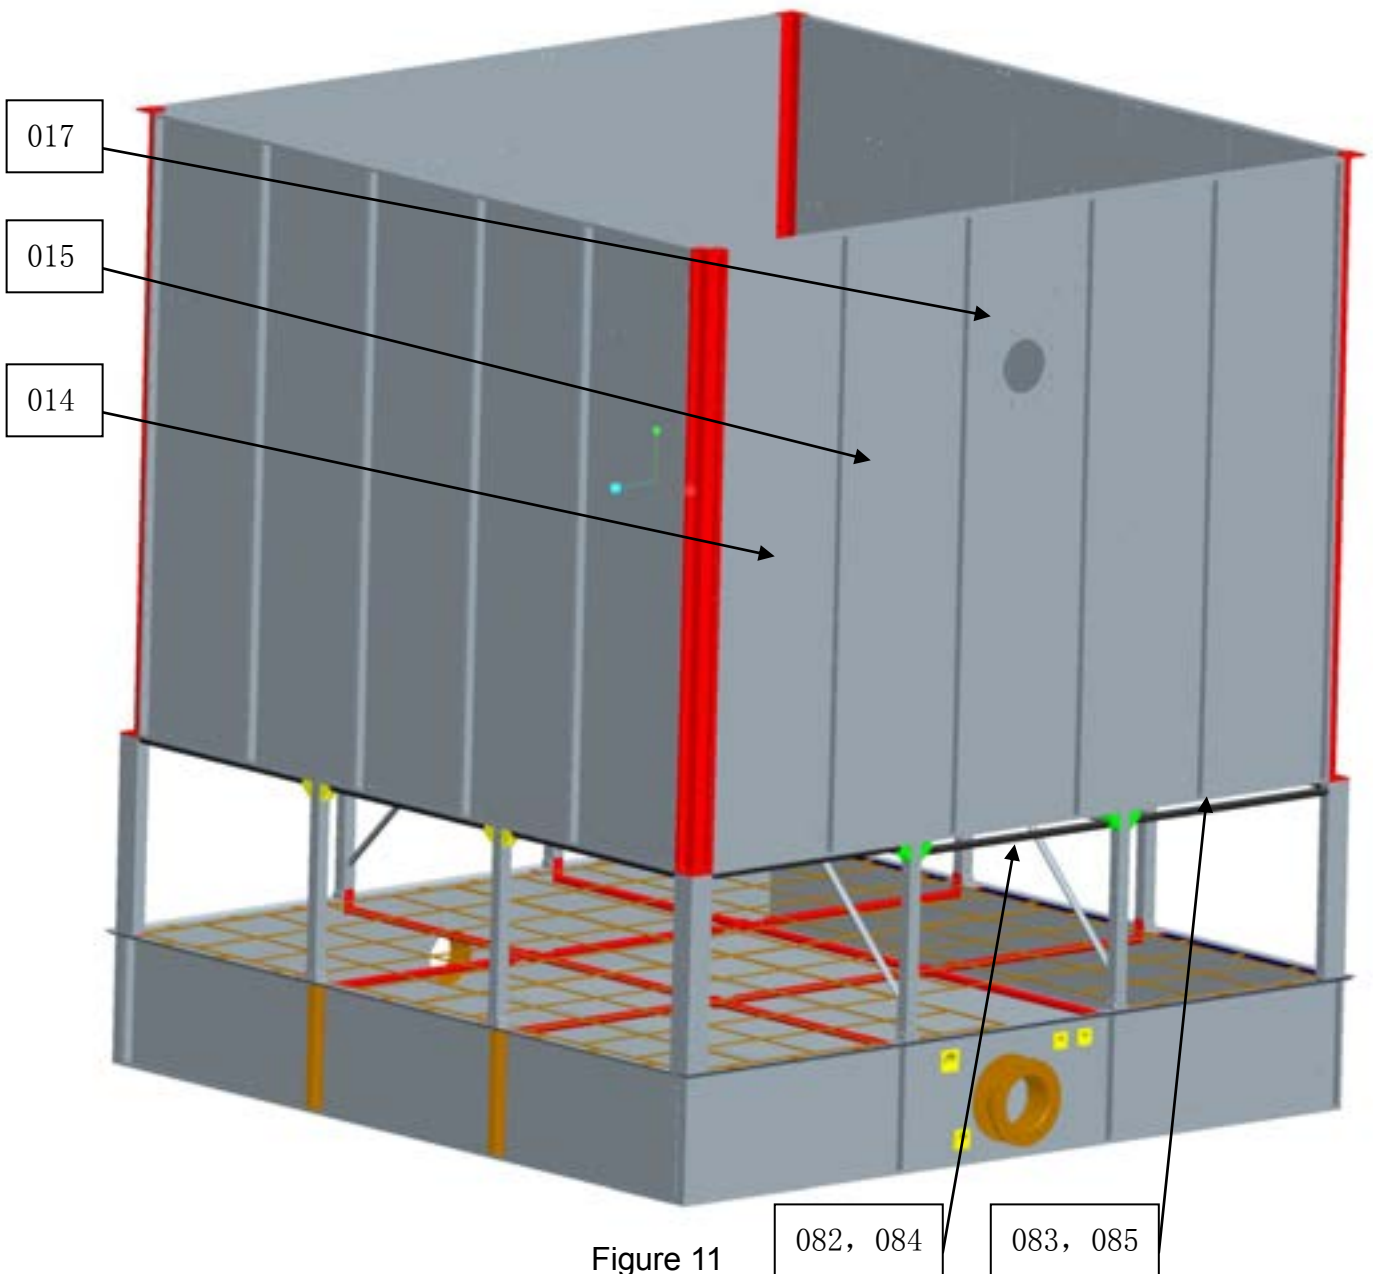

Figure 11
- 3) use plastic fastener to install the semi-circular tube. (see figure 11)